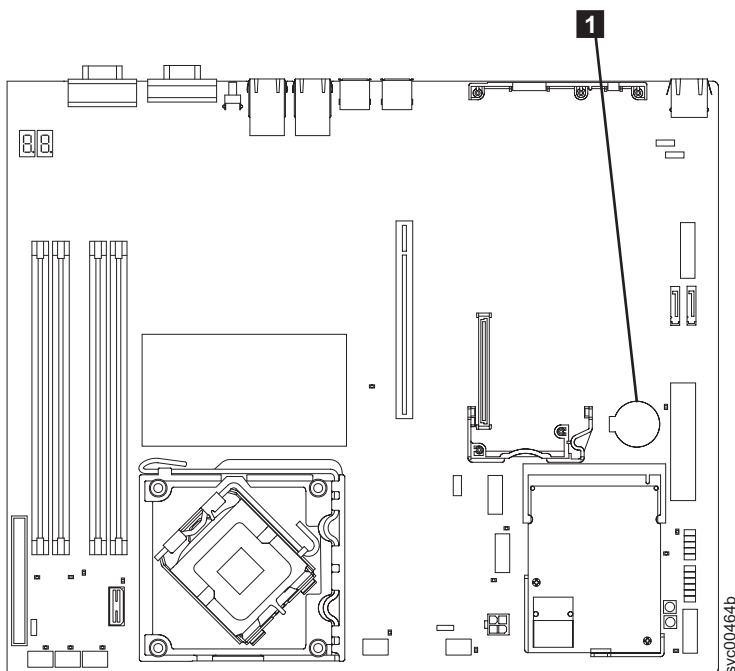

Figure 135. Locating the SAN Volume Controller 2145-8A4 CMOS battery
**1** in Figure 135 shows the location of the battery.